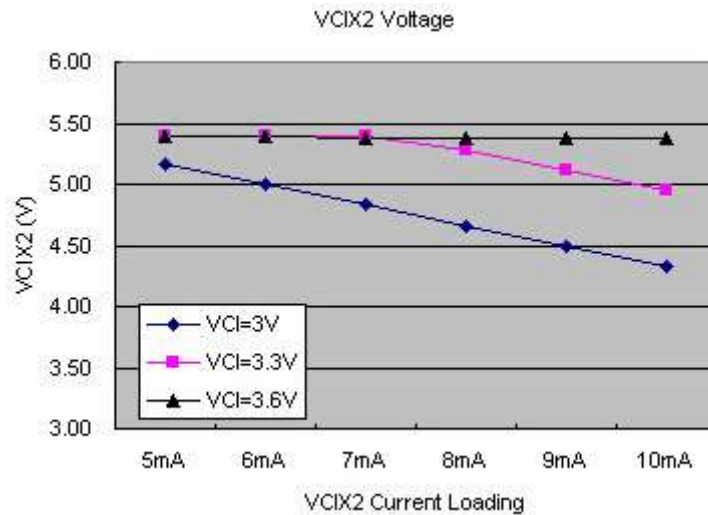

Figure 10.1 VCIX2 Voltage
(2) COML < 0V, COMH < VCIX2J, COMH > VCI
(3) VCIX2 voltage is related with VCI voltage & VCIX2 loading. Figure 10.1 shows the estimated VCIX2 voltage under different VCIX2 current loading when ITO for VCIX2、VCI and VCHS = 10Ω.